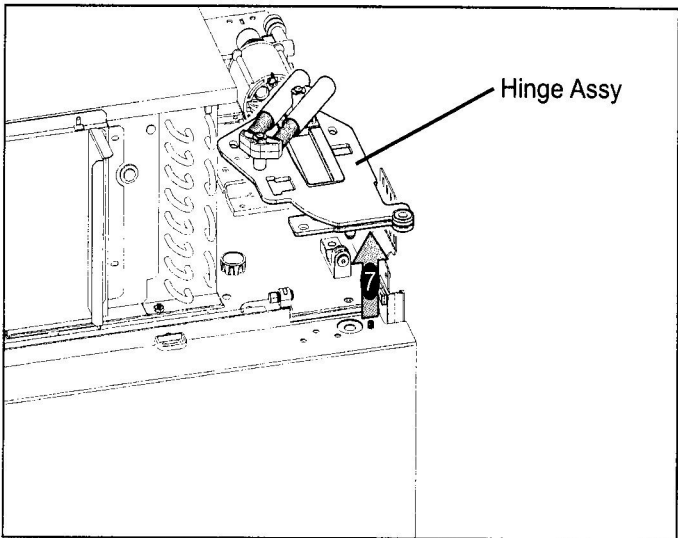

Figure 7-90. Top Door Hinge Assy Removal
- 7. Lift the hinge assembly up off of the top of the unit, allowing the door to shift toward the handle side and come to rest against the main frame (See Figure 7-90).